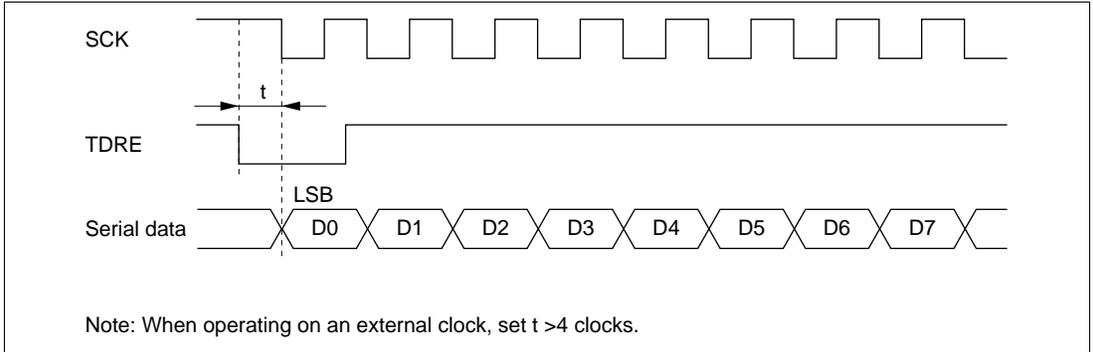

Figure 14-22 Example of Clocked Synchronous Transmission by DTC
- When an external clock source is used as the serial clock, the transmit clock should not be input until at least 5ϕ clock cycles after TDR is updated by the DMAC or DTC. Misoperation may occur if the transmit clock is input within 4ϕ clocks after TDR is updated. (Figure 14-22)